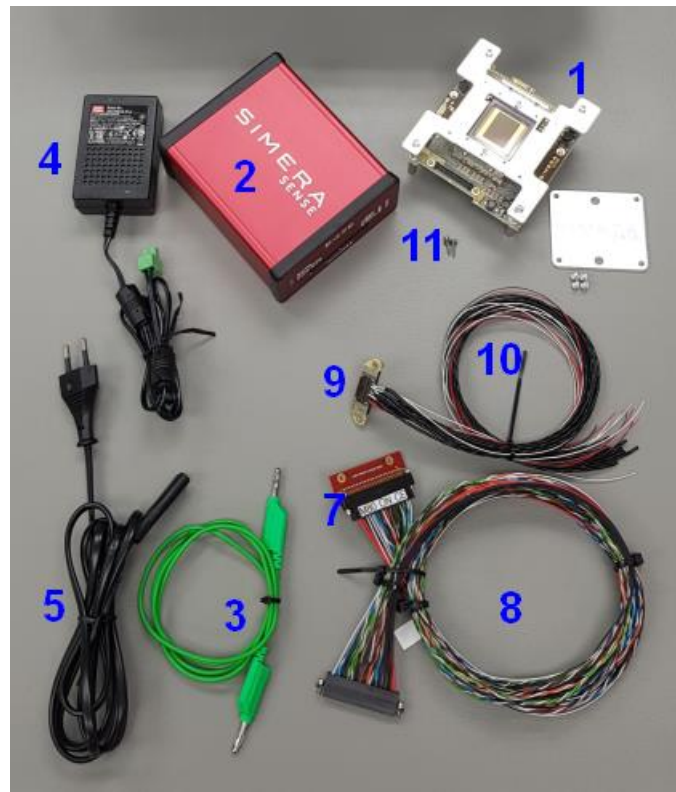

Figure 12-1: xScape EFM and EGSE Items
Figure 12-1 shows a photo of EGSE items. Some items are not shown, as indicated in the text.
1. The assembled Imager. ('xScape-CMV12000 EFM Imager Electronics' is shown in Figure 12-1)
6. USB 3.0 Cable (not shown in Figure 12-1)
13. Personal Computer (PC) (not supplied)
14. RS422-to-USB cable (optional) (not shown in Figure 12-1)